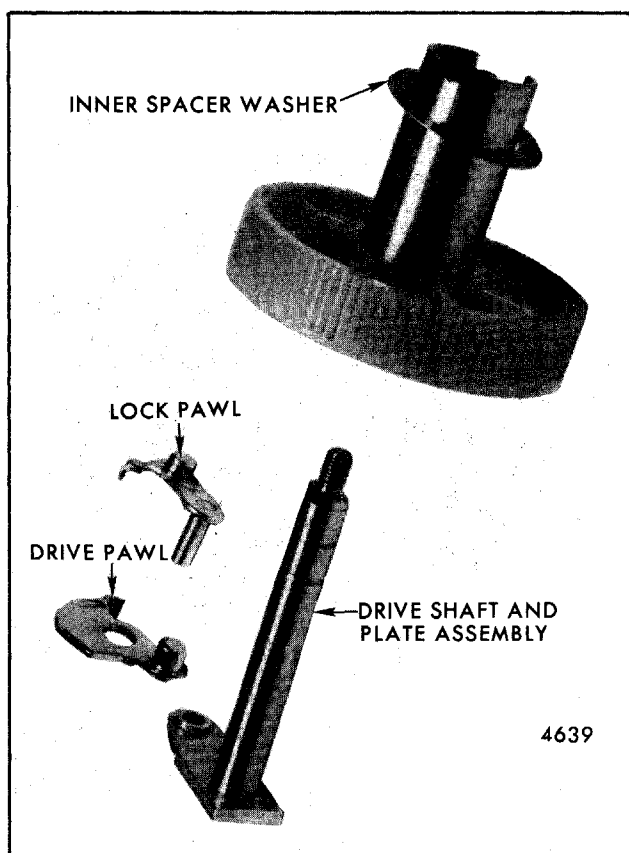

Fig. 2-48-Gear Removed
5. Slide drive plate and shaft out of gear and remove the drive pawl, lock pawl and coil spring as required (Fig. 2-48).